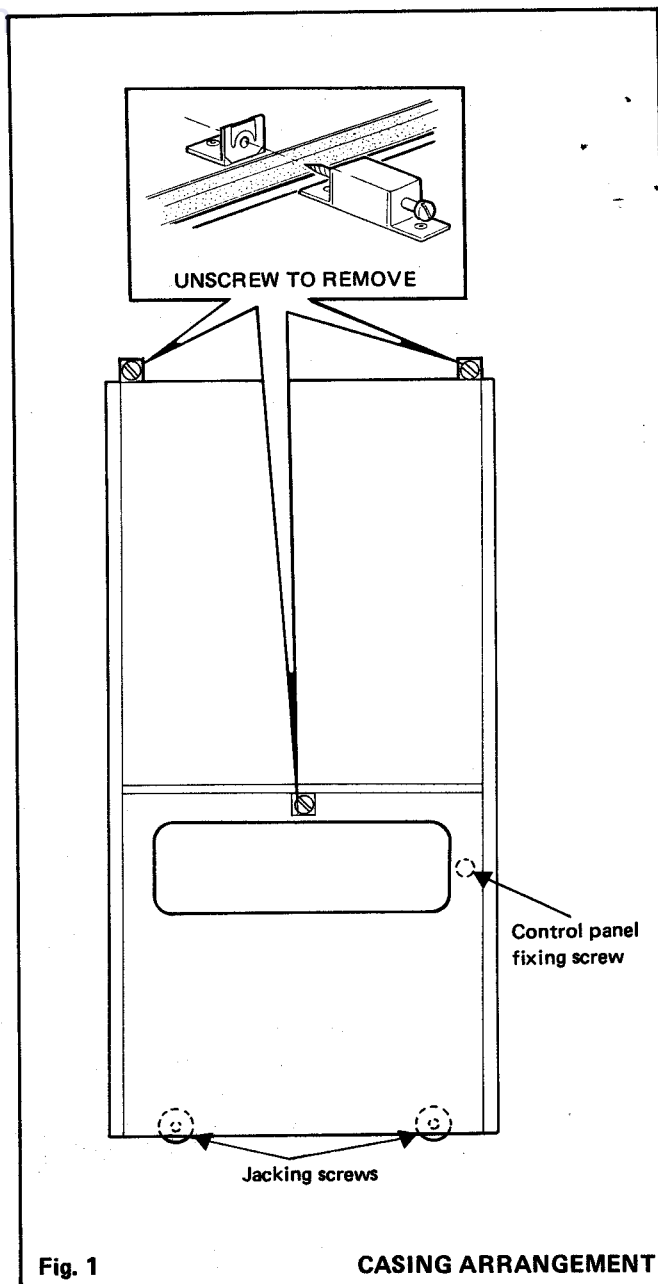

Fig. 1
Two jacking screws, located at the bottom of the boiler back panel, are provided to facilitate boiler alignment – refer Fig.1.
- Release the two captive screws at the top of the casing and the single captive screw within the controls compartment. Lift the casing off the boiler (refer to Fig. 1) and take care not to damage the glass fascia panel. Place the casing safely to one side.